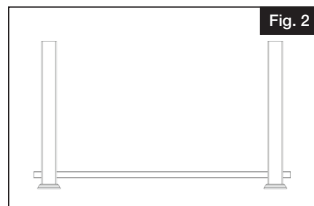

Fig. 2
- Place bottom rail across post opening leaving equivalent spacing from the last baluster and post on each end (Fig 2).